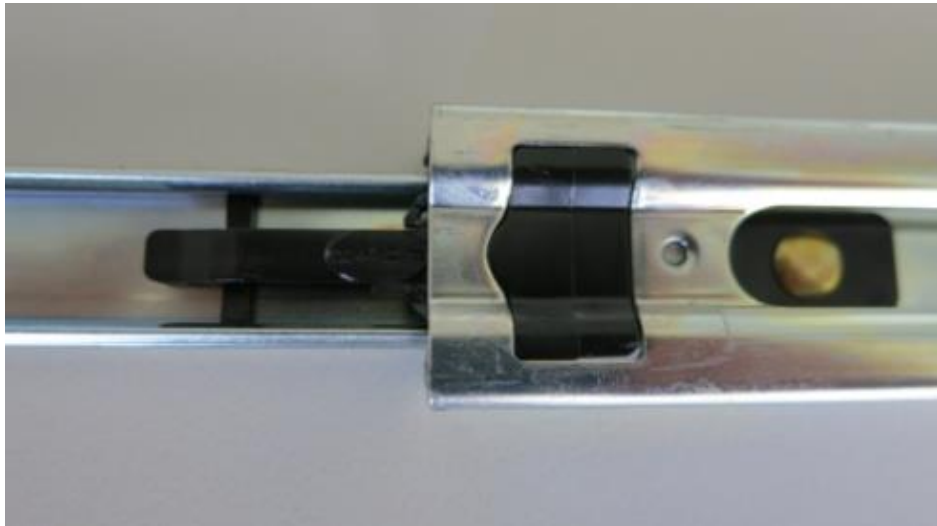

Figure 164 – Slide Clips
2. Refer to Figure 164. Find the rack slide lock labelled **Push** and push it in whilst sliding the instrument out of the rack, complete this for both sides while carefully removing instrument.